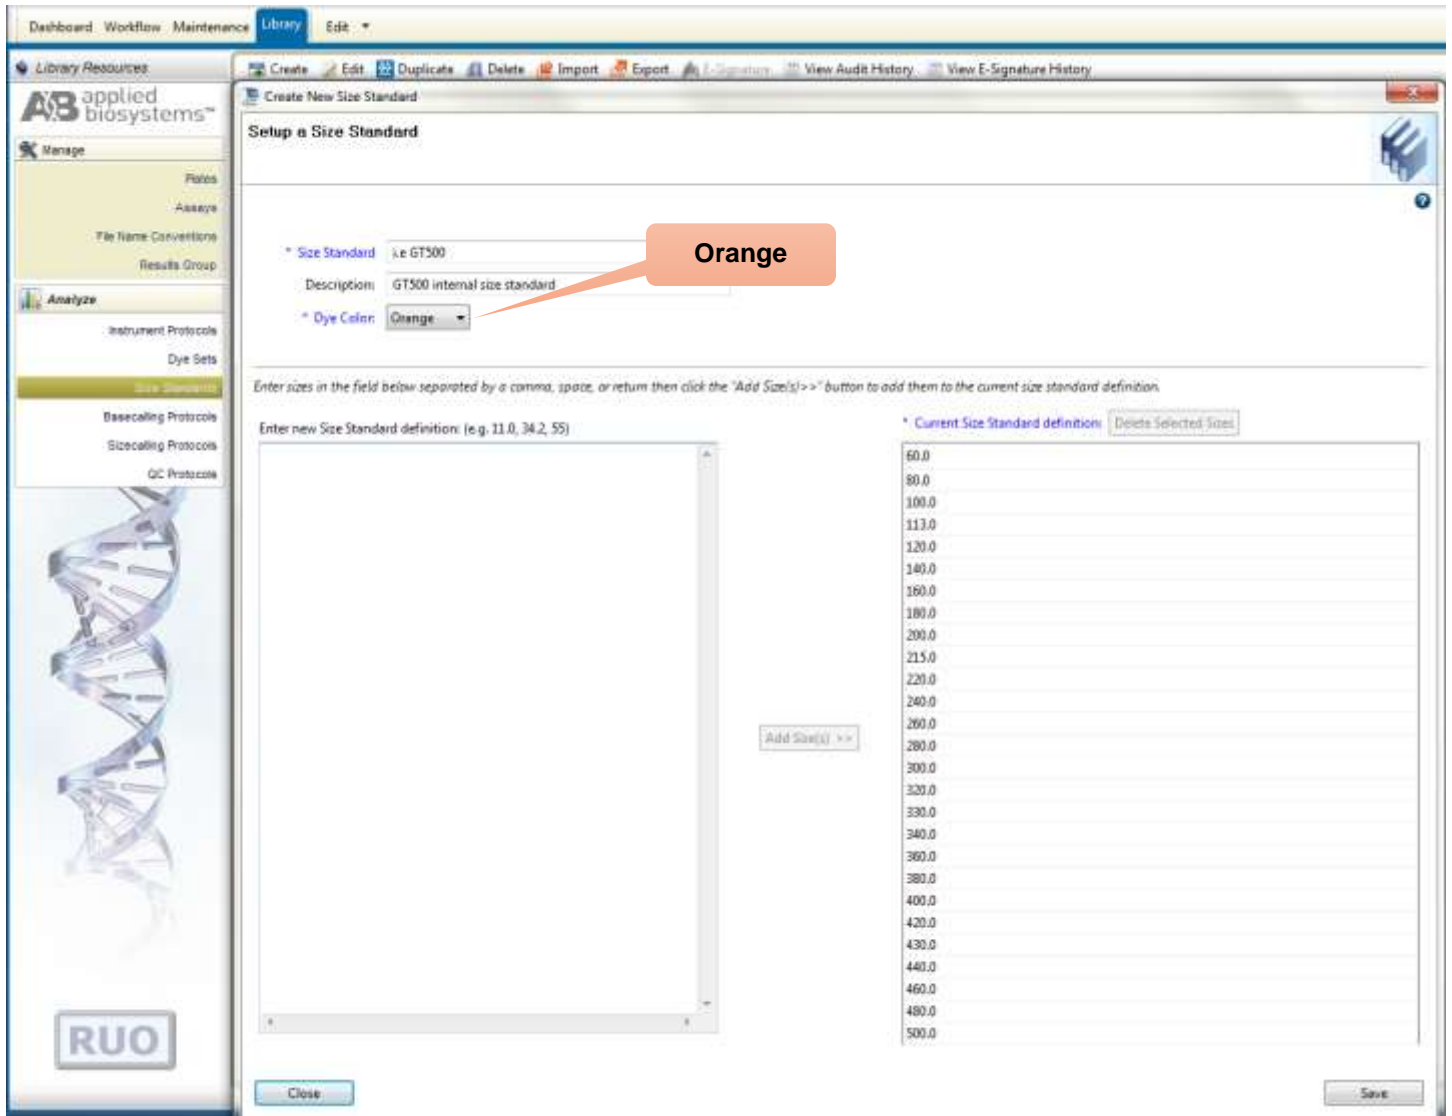

Figure 6. Screenshot for the “Create New Size Standard” window on Applied Biosystems 3500 Data Collection software
- c) select “Create” (Figure 6)